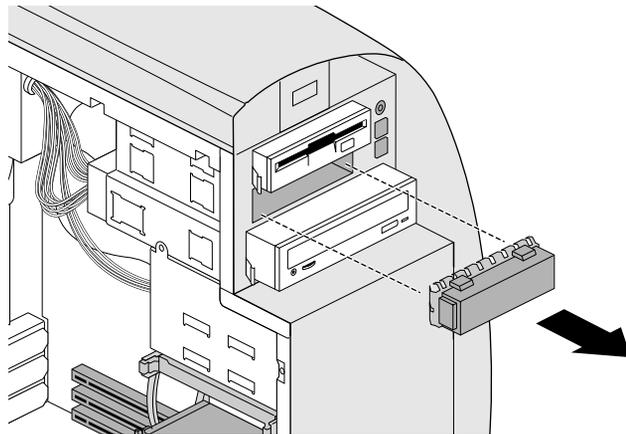

Figure 4-4 Removing a Blank Panel from a Removable Media Drive Slot
7. If there is a blank panel covering the drive opening in the system, remove it, as shown in Figure 4-4.